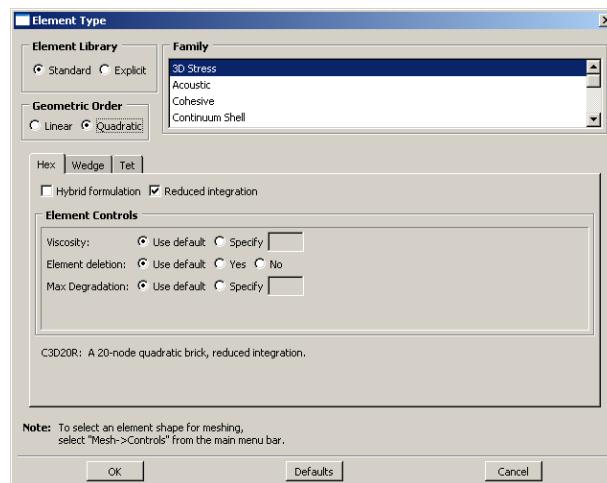

Figure 16. Element Type (C3D20R)
- Finally, the proper element type will be assigned to the model. Since there is only one element through the thickness for this model, 20-noded brick elements will be used. Click the **Assign Element Type** icon  in the model tree and the **Element Type** dialog box will appear. Under the **Geometric Order** option choose **Quadratic**. The **Element Type** dialog box should look similar to Figure 16.